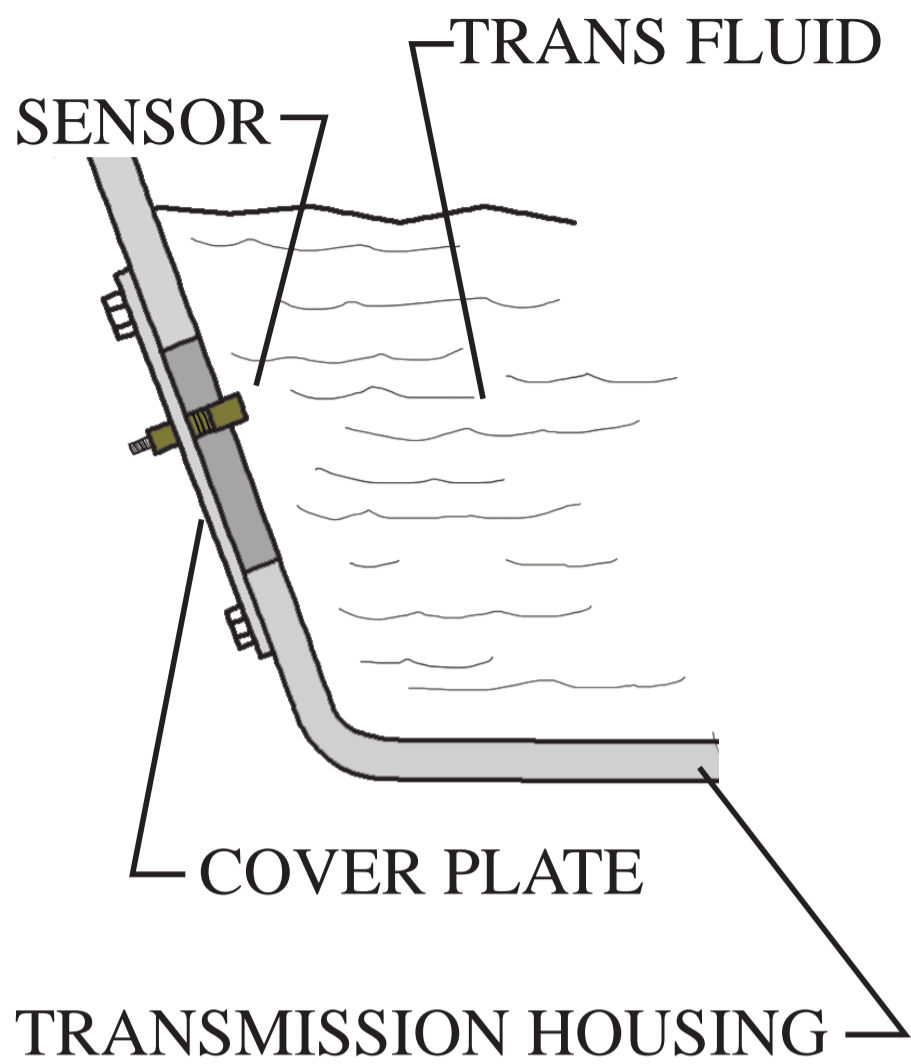

Figure 11
- 2) Find the best location for the sensor. Figure 11 (on the next page) gives a basic example of the temperature sensor being installed to the side plate of a manual transmission. This location is ideal for this particular install because the plate can easily be removed, modified, and reinstalled without getting any metal filings inside the transmission.)